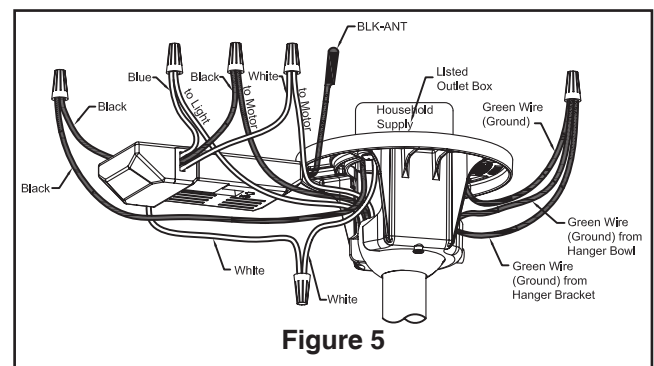

Figure 5
5. Route wires through Motor Coupling Cover, Canopy Screw Cover and Ceiling Canopy. (Figure 5)
- ☐ 4. Connect green wires from hanger bracket an hanger ball to bare (ground) wire using wire connector supplied. Connect black wire from receiver unit marked "AC IN L" to black supply wire using wire connector supplied. Connect white wire from receiver unit marked "AC IN N" to white supply wire using wire connector supplied. Connect white wire from receiver unit marked "TO MOTOR N" to white wire from fan using wire connector supplied with receiver. Connect black wire from receiver unit marked "TO MOTOR L" to black wire from fan using wire connector supplied. Lastly, connect blue wire from receiver to the blue fan light wire using wire connector supplied. Position all connected wires and receiver antenna to allow installation of ceiling canopy (Figure 5).
- ☐ 5. After splicing and making the wire connections, the wires should be spread apart and turned upward with the grounded conductor and the equipment-grounding conductor on one side of the outlet box and the ungrounded conductor on the other side of the outlet box. (Figure 5)
- ☐ **5.** If airflow is desired in the opposite direction, turn the fan off and wait for the blades to stop turning. Slide the reverse switch on top of motor assembly to the opposite position and turn fan on again. (Figure 5)